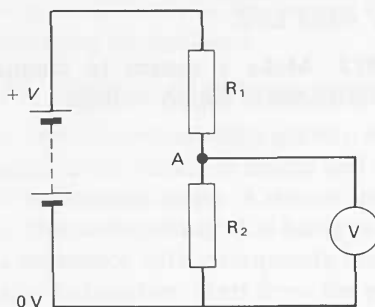

Figure I49
- 1(I)a** Two resistors (R_1 , R_2) are connected across a power supply giving a p.d. of V (figure I49). What is the potential at A (i.e. the potential difference between point A and 0 V)? (Assume no current through the voltmeter.)